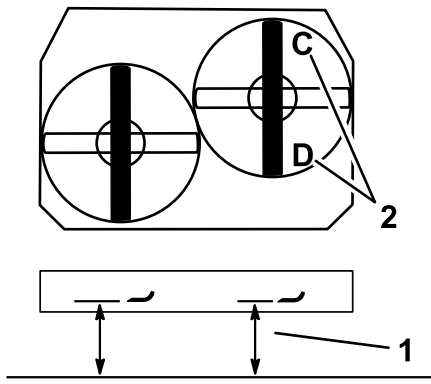

Figure 80
- Position the right blade front-to-rear (Figure 80).
- Measure the right blade at the **C** location, from a level surface to the cutting edge of the blade tip, and record this measurement (Figure 80).
- Measure the right blade at the **D** location, from a level surface to the cutting edge of the blade tip, and record this measurement (Figure 80).
**Note:** The mower blade should be 6 to 10 mm (1/4 to 3/8 inch) lower at position **C** than at position **D** (Figure 80). If it is not correct, proceed to the following steps.
2. Position the right blade front-to-rear (Figure 80).